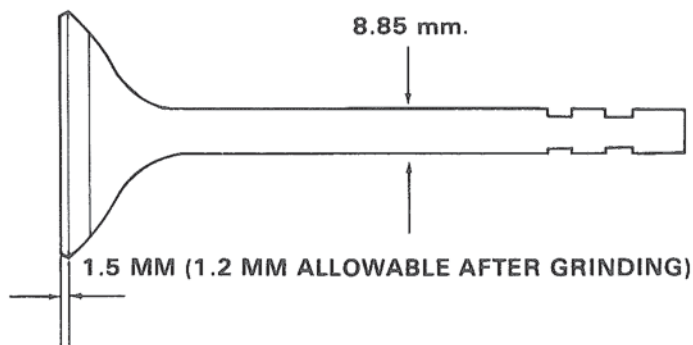

Figure 29. Valve Dimensions.
A. Measure stem O.D. at various places along length of valve. Figure 29.